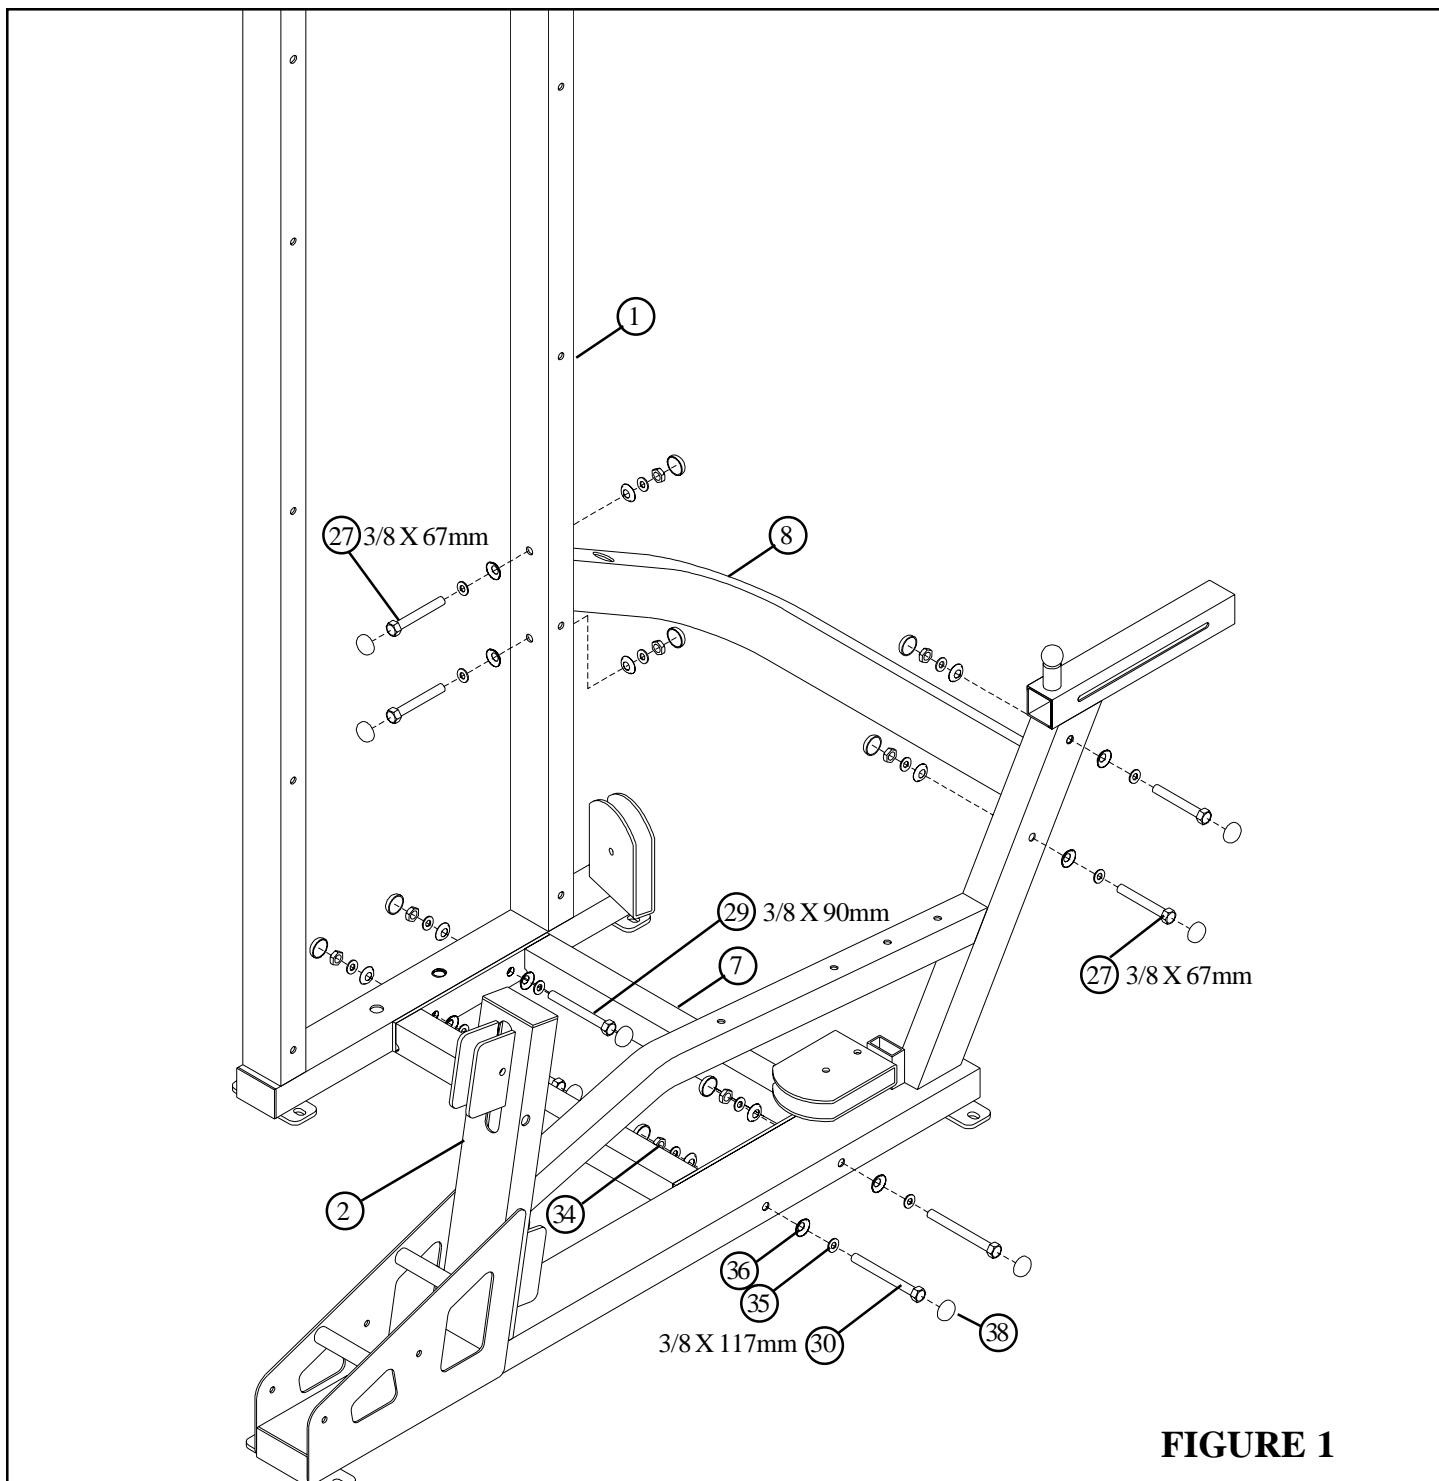

FIGURE 1
- **LOOSELY** assemble the BASE (7) to the LEG PRESS FRAME (2) and TOWER (1) using eight RH CAPS (38), two 3/8 X 117mm BOLTS (30), two 3/8 X 90mm BOLTS (29), eight 3/8" SAE WASHERS (35), eight 3/8" RH WASHERS (36) and four 3/8" LOW HEIGHT LOCK NUTS (34) as shown in FIGURE 1.
- **LOOSELY** assemble the UPPER SUPPORT (8) to the LEG PRESS FRAME (2) and TOWER (1) using eight RH CAPS (38), four 3/8 X 67mm BOLTS (27), eight 3/8" SAE WASHERS (35), eight 3/8" RH WASHERS (36) and four 3/8" LOW HEIGHT LOCK NUTS (34) as shown in FIGURE 1.